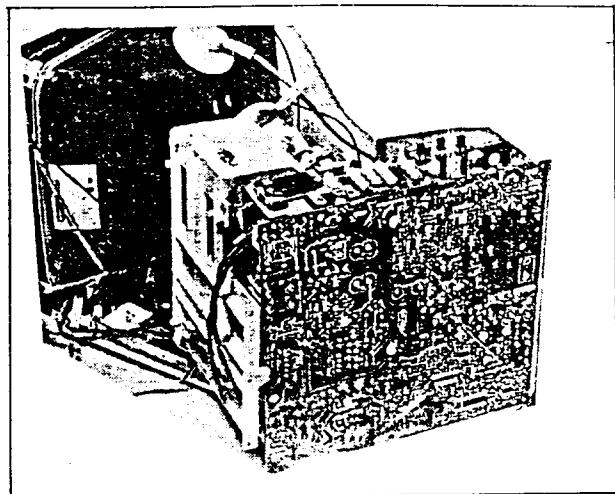

FIG. 6
- \* When conducting a check with power supplied, be sure to confirm that the CRT earth wire is connected to the CRT socket board and the chassis (Fig. 6).